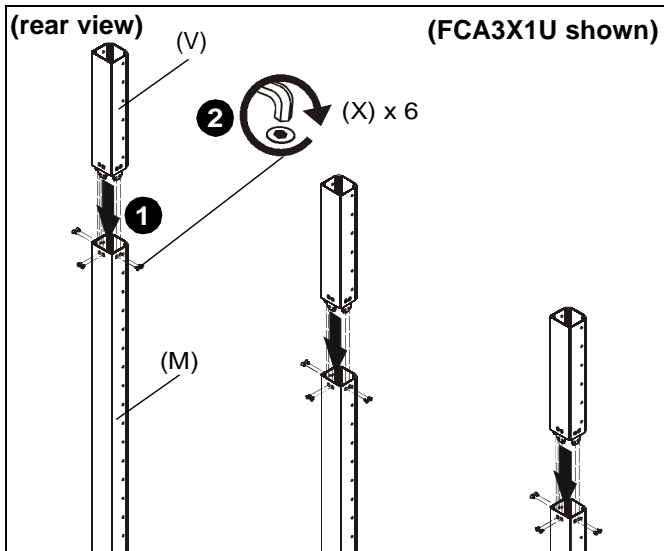

Figure 1
1. Insert one column add-on (V) to each column (M) making sure holes are lined up on each side. (See Figure 1)
2. Use six 1/4-20 x 1/2" flat head cap screws (X) to secure column each add-on (V) to each column (M). (See Figure 1)